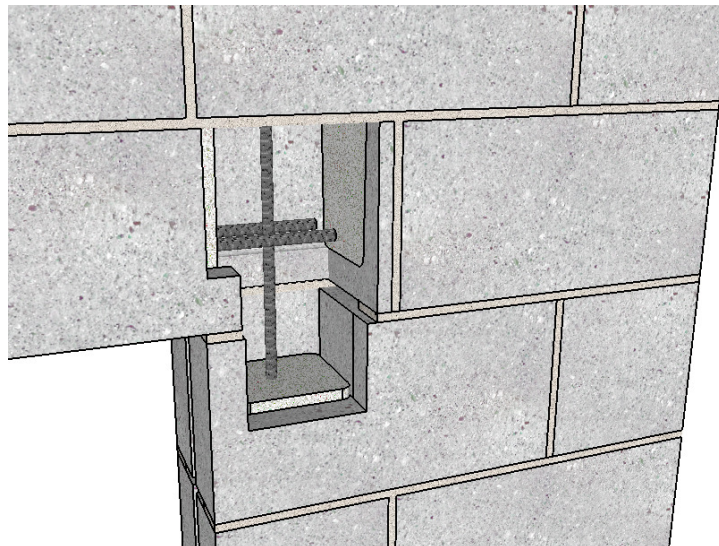

Figure 1: Masonry lintel intersection masonry jamb
- B) Masonry lintels create an integral joint with vertical jamb reinforcement. This leads to a more robust design that has many design benefits and is less expensive . See Figure 1 below.